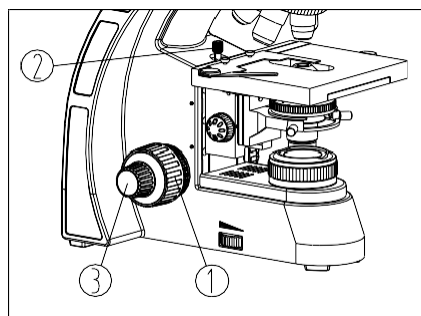

Fig. 14
- (1) Move the objective 4X or 10X to the optical path.
- (2) Observe the right eyepiece with right eye, rotate the coarse focusing knob ① until the specimen outline appears in the view field (see Fig. 14).
- (3) Rotate the fine focusing knob③ for clear details and lock the position screw②.